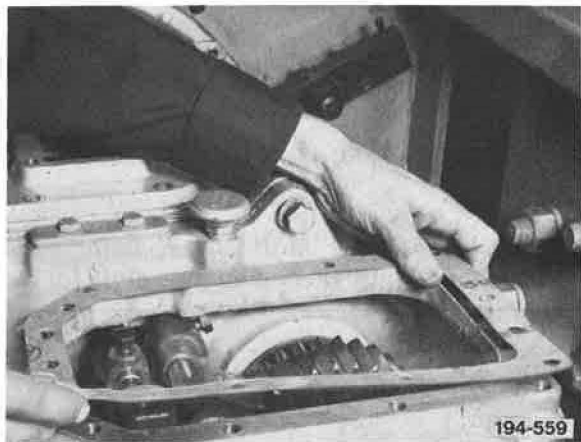

Figure 5-1005. Installing Gasket
2. Install air shift cover, being careful to be sure shift levers engage shift forks. See Figure 5-1006.